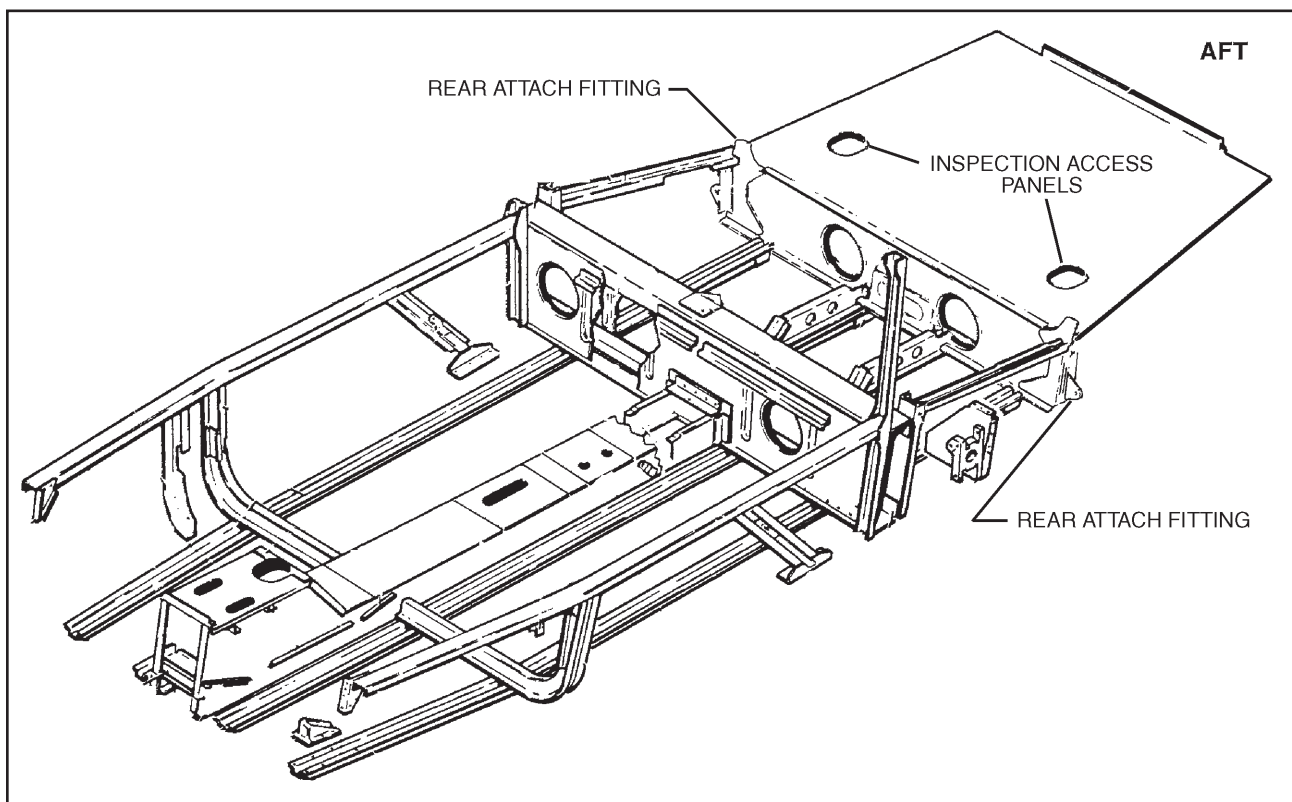

Figure 3-9
- 1) Gain access to the left and right aft wing attach fittings. (See Figure 3-9.)
- (d) Removal and Installation Procedure (if required). (See Figure 3-9.)